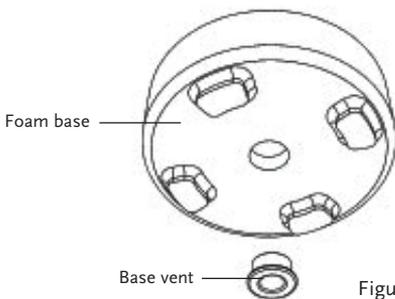

Figure 2
- Insert the base vent into the foam base from the underside (**IMPORTANT: the vent flange should be on the outside of the CoolCell FTS30**) (Fig. 2 and 3)